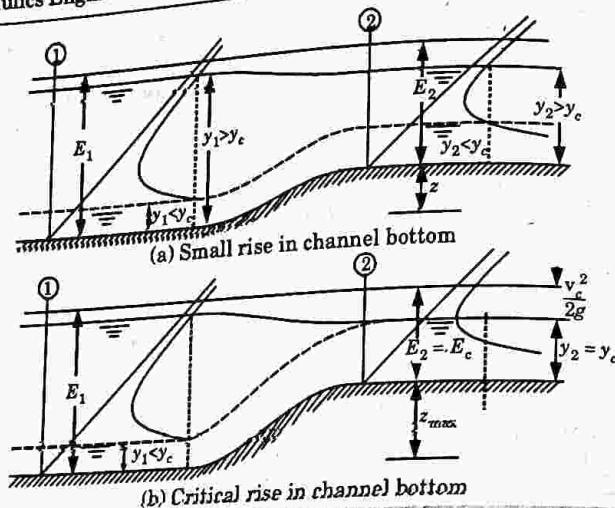

Fig. 2.1.2. Flow in a rectangular channel with a hump in the bottom.
- Fig. 2.1.2 shows a rectangular channel section with uniform width and having a rise in bottom generally known as hump.
- The specific energy 'E' is measured with respect to the channel bottom. It is assumed that there is no loss energy between section (1)-(1) and (2)-(2).